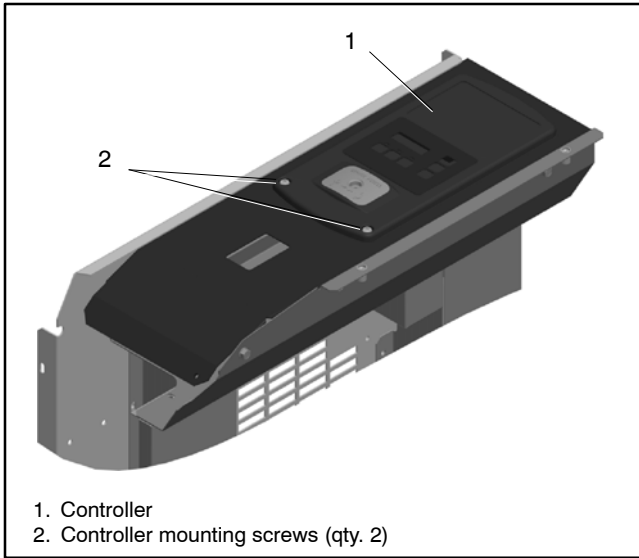

Figure 16 Controller Mounting (14/20RESA shown)
7. Remove the two (2) screws securing the controller to the junction box and *carefully* lift the bottom edge of the controller. See Figure 16.